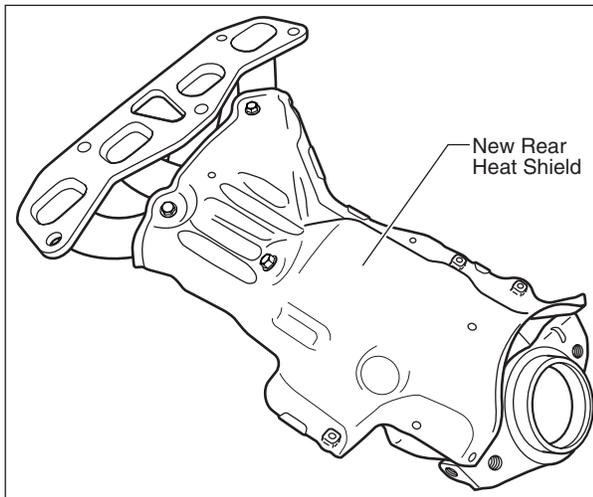

Figure E25a
36. Install the new Rear Heat Shield onto the new Exhaust Manifold/Catalyst with four new screws (see Figure E25a).